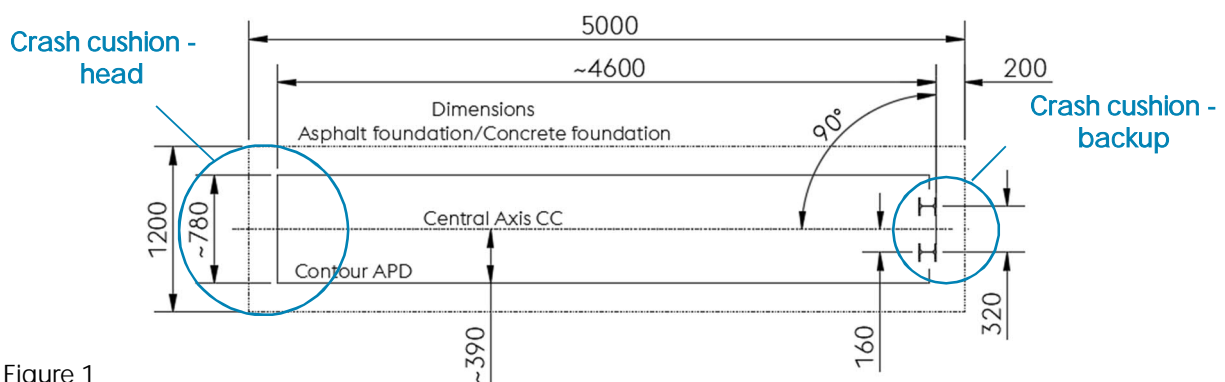

Figure 1
- The total layer thickness of all installed asphalt layer thicknesses or concrete thicknesses must not be less than 20 cm. This applies to an area corresponding to the contour of the crash cushion according to Figure 1 plus an enlargement on all sides of at least 20 cm. For smaller thicknesses, the procedure must be coordinated with the manufacturer in each case.
The middle axis of the crash cushion and the perpendicular axis of the two I120 posts (see Figure 1) must be marked on the installation surface.